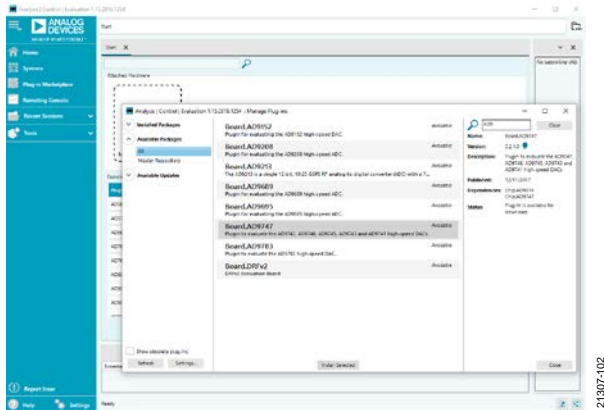

Figure 10. ACE Software, Manage Plug-ins Window
5. Select the required plug-in and click **Install Selected**, as shown in Figure 10.